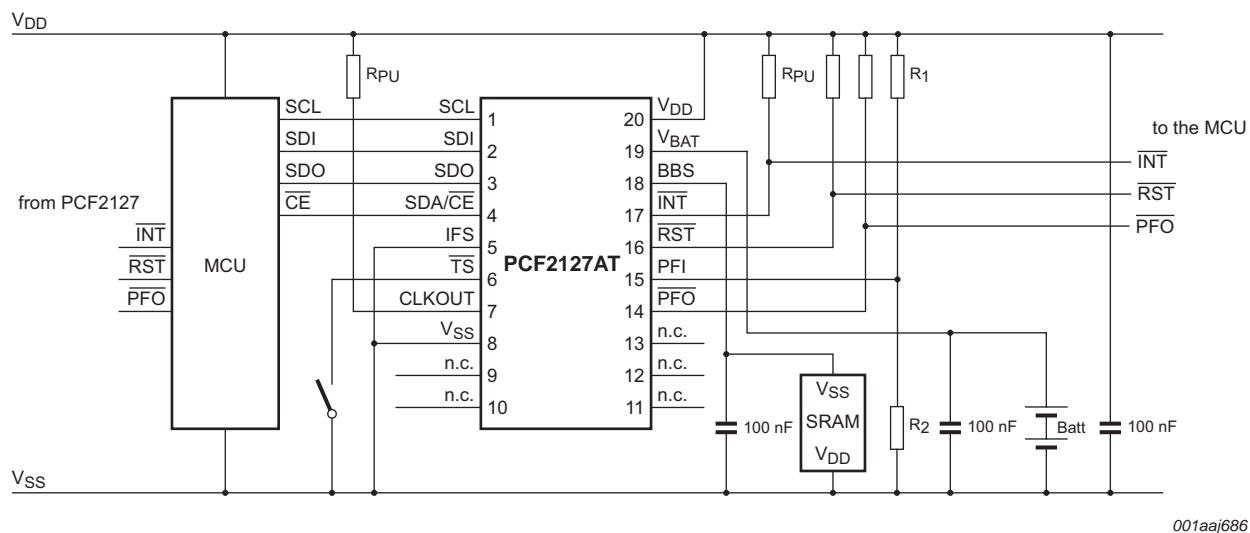
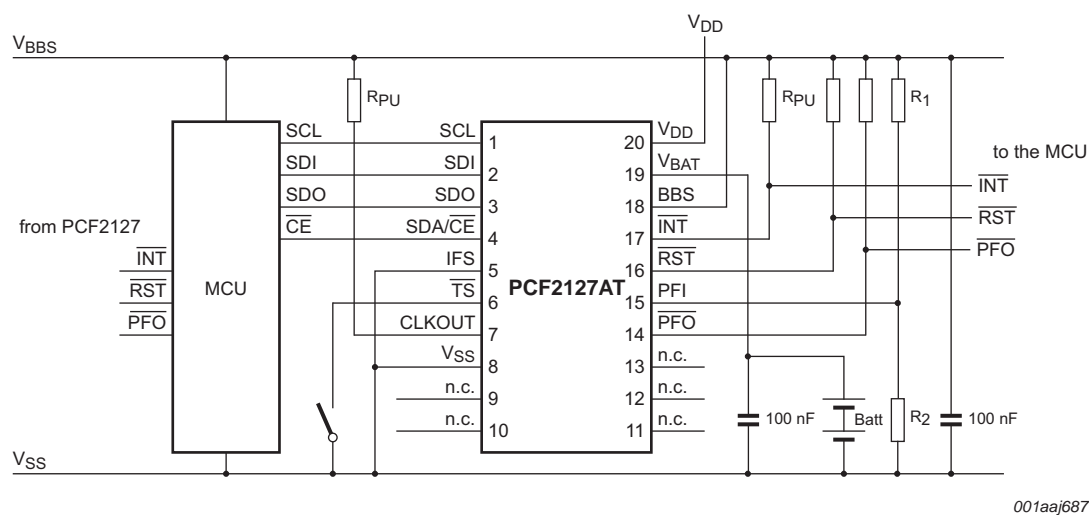

Fig 12. Application diagram: timekeeping, CLKOUT, power management, timestamp with the interface active
Fig 13. Application diagram: BBS supplies the microcontroller
PCF2127AT used for timekeeping, power management, CLKOUT and timestamp functions (see Figure 12):
- BBS supplies an external device, e.g. SRAM (see Figure 12) or a microcontroller (see Figure 13)